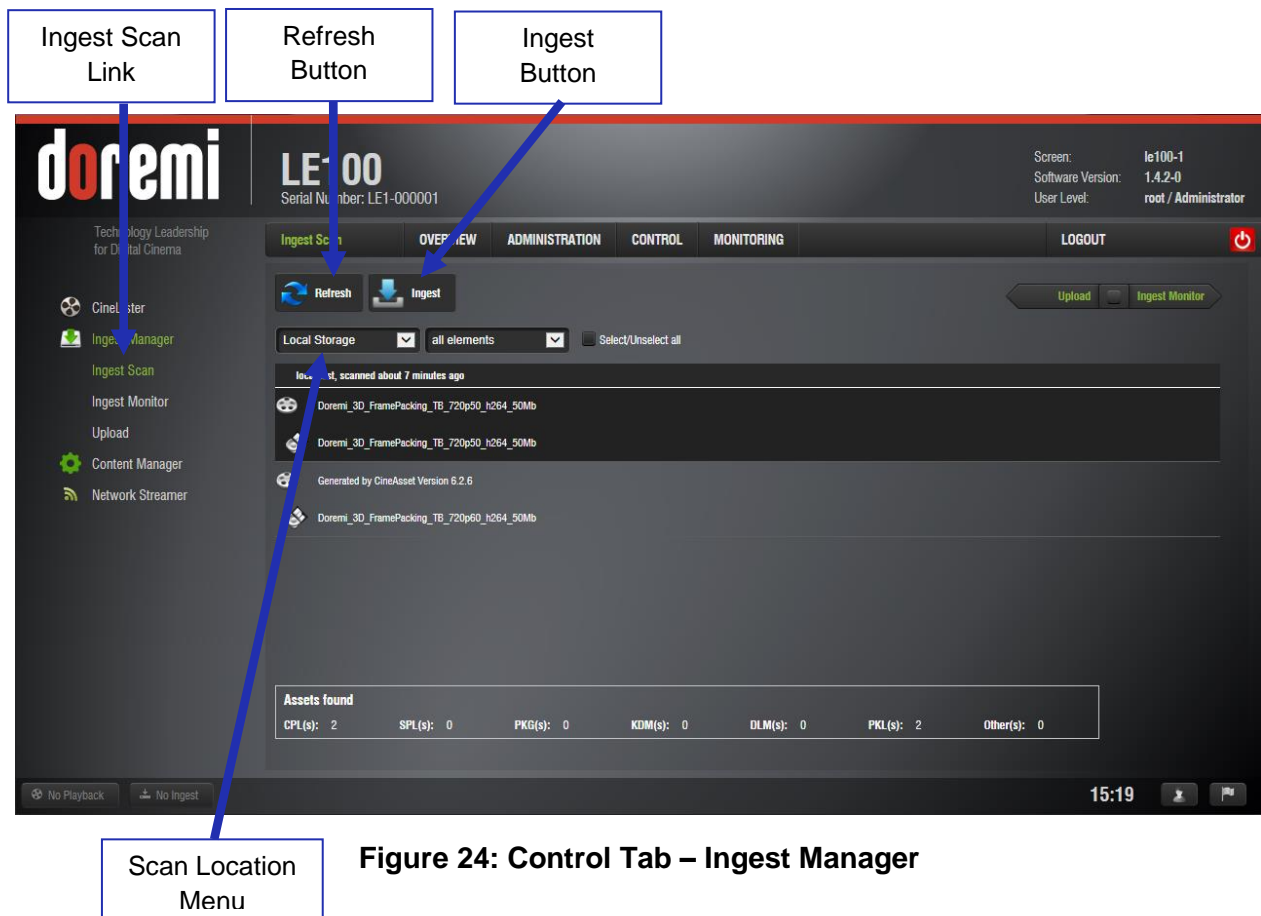

Figure 24: Control Tab – Ingest Manager
- Click on the Ingest Manager and then the Ingest Scan link on the left side of the GUI (see Figure 24).